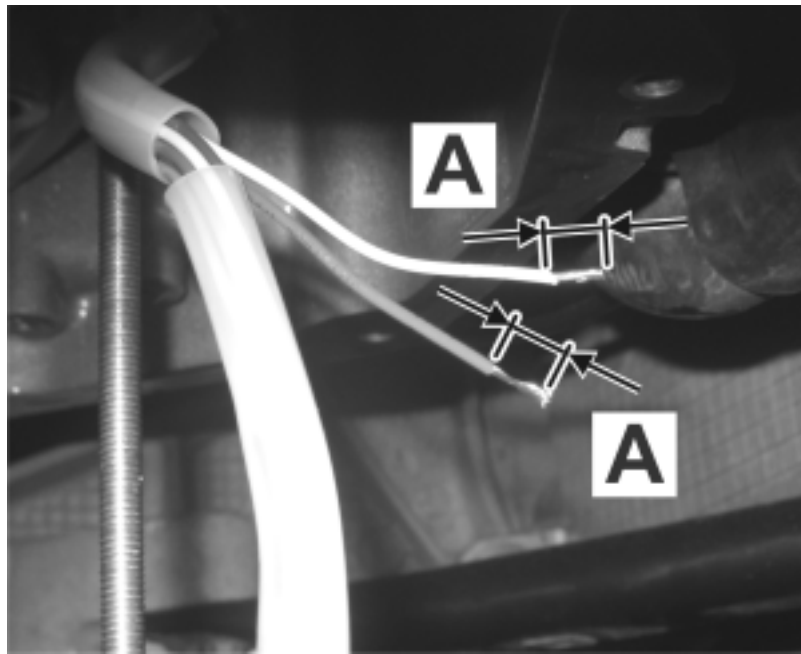

Figure 3
- 8 Strip white and orange line \Rightarrow Length 5 mm (\Rightarrow Figure 3-A-).